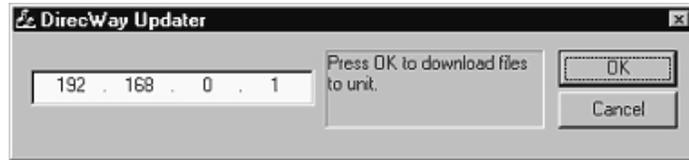

Figure 121: Entering the remote terminal's IP address
4. Type **192.168.0.1** in the IP address field on the DirecWay Updater window as shown in Figure 121. This value is the IP address for the remote terminal.